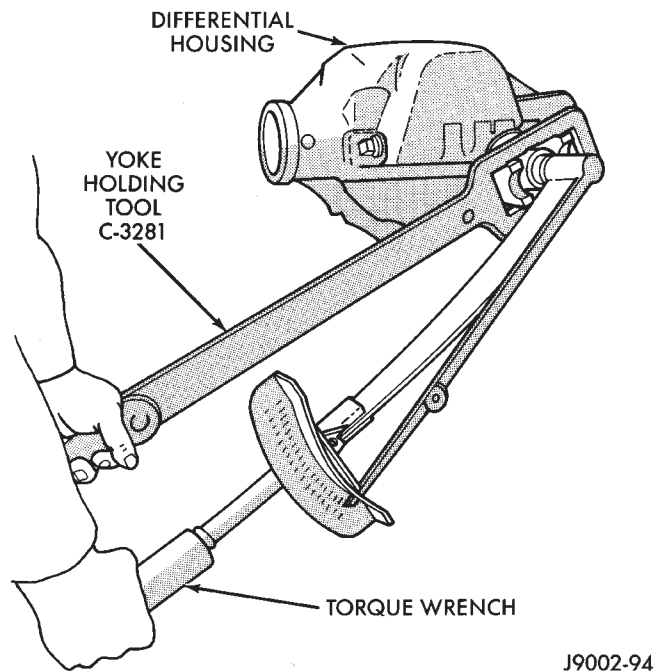

Fig. 55 Tightening Pinion Nut
(9) Install the yoke washer and a new nut on the pinion gear. Use Flange Wrench C-3281 to retain the yoke (Fig. 55). Tighten nut to 216 N-m (160 ft.lbs.) torque or enough to remove play. **Do not over-tighten.**
(10) Use Flange Wrench C-3281 to retain the yoke (Fig. 55). Slowly tighten the nut in small increments until the rotating torque is achieved. Measure the rotating torque frequently to avoid over-tightening the nut.